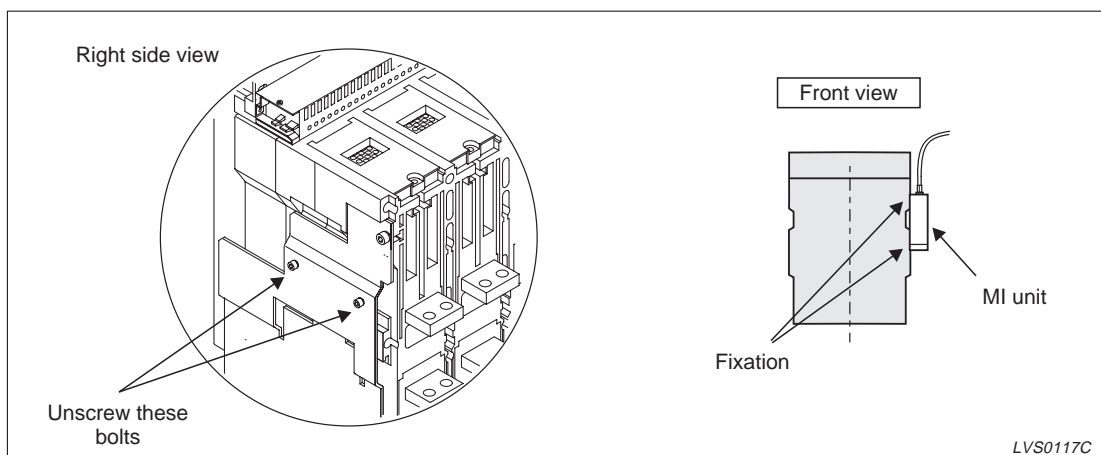

Fig. 4-52: MI unit mounting on the breaker (fixed type)
- ① Remove the hexagonal screws on the the right side frame (refer to fig. 4-52).
- ② Mount the MI unit on the right side frame by tightening the M6 bolts and spring washers (tightening torque: 2.9–3.8 Nm).